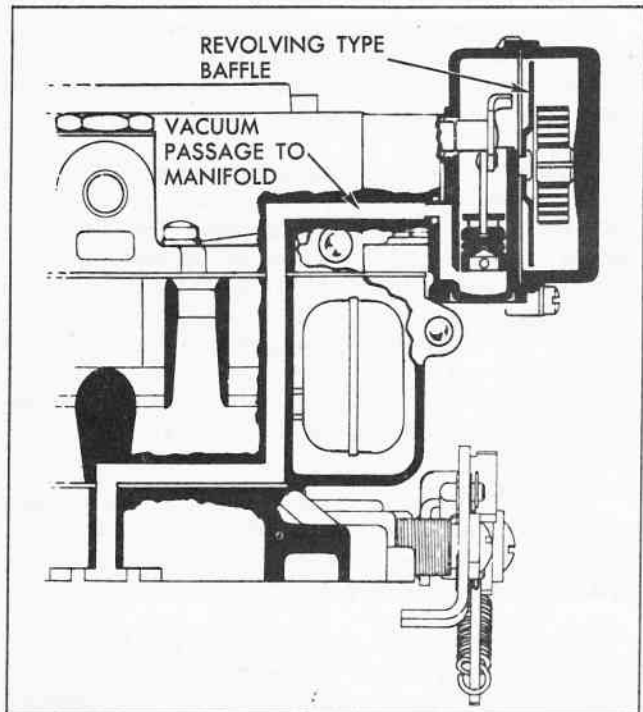

Fig. 7 Choke Circuit
The Climatic (R) control circuit (Fig. 7) provides a correct mixture necessary for quick cold engine starting and warm-up.